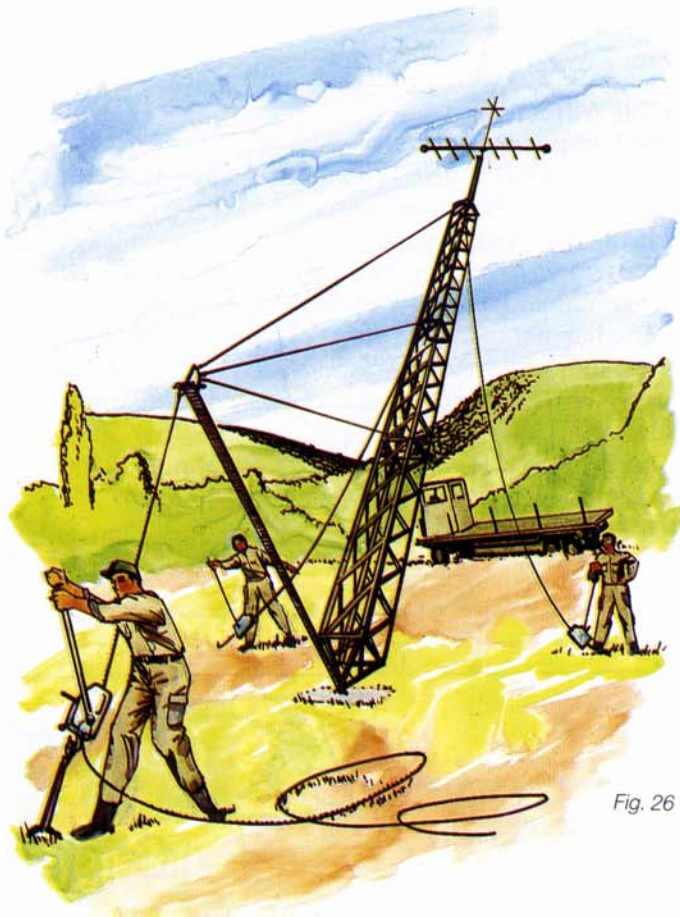

Fig. 26
- erection of mobile aeriels and antennas (Fig. 26)